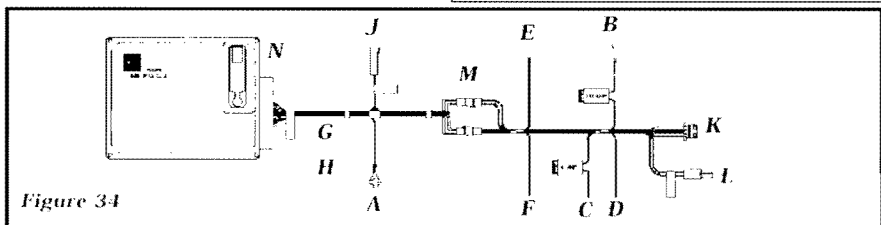

Figure 34
B. Straighten the **CRUISE HARNESS** and find the **2 & 4** pin mating connectors. Separate the **2 & 4**-pin connectors. A small screwdriver may be needed (See **K** in **Figure 34**).
Utilize **Figure 34** to make the necessary wiring harness connections to your vehicle.